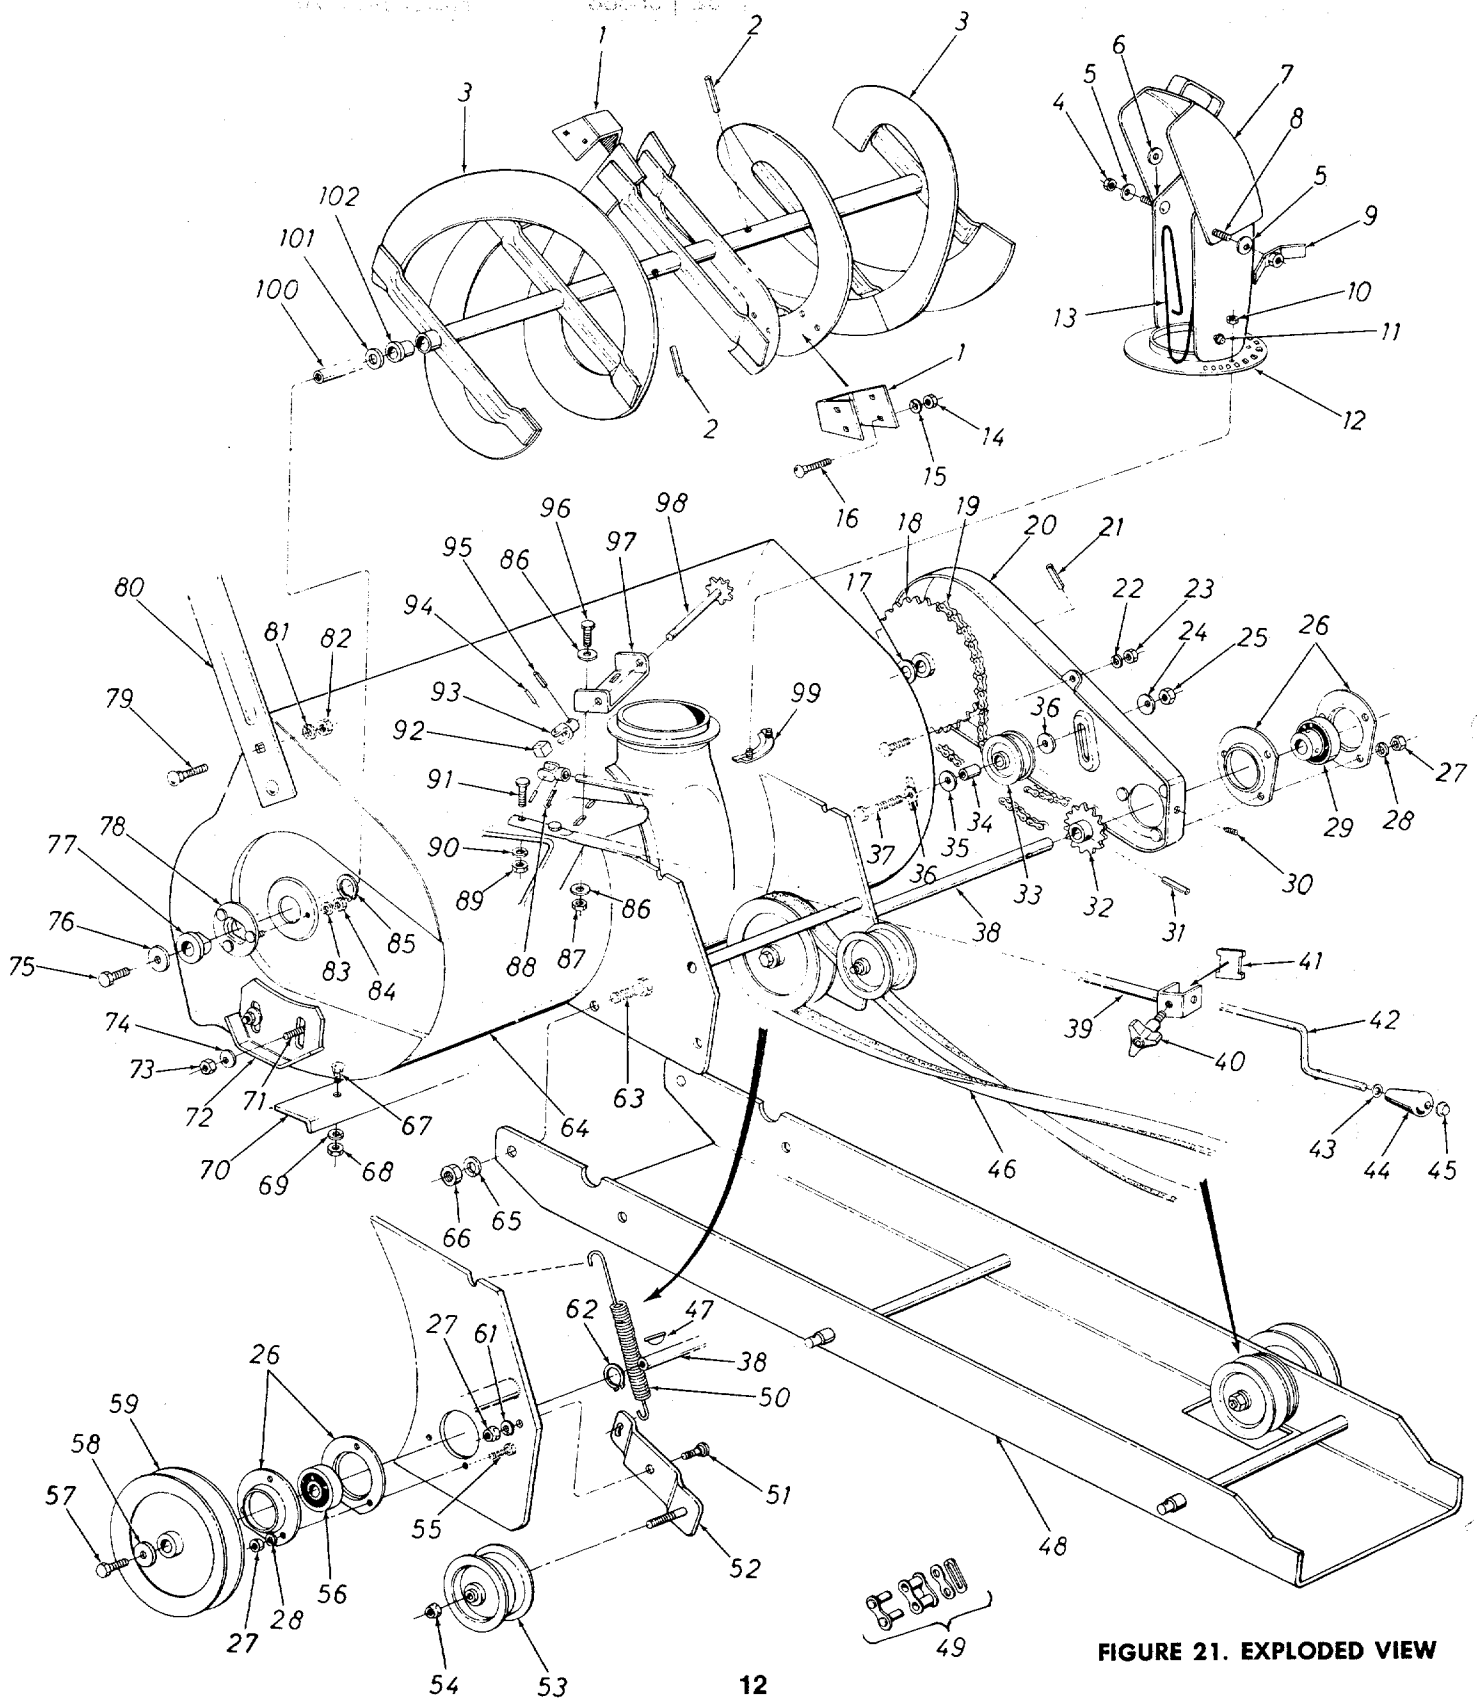

FIGURE 21. EXPLODED VIEW
17. Assemble the crank support tubing assembly to the spiral housing with two hex screws 5/16-18 x 1" Lg., lockwashers and nuts. See figure 21, page 12.
18. Assemble the chute crank. Place the chute crank bracket in the upper bracket on the crank support tube. Slide the chute crank through the crank support tube and secure the end in the universal with a cotter pin. Thread in the hand knob just enough, so that the chute crank can be turned freely. See figure 21, page 12.